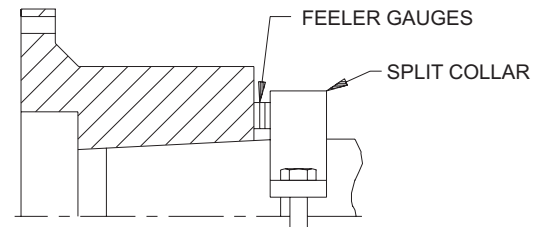
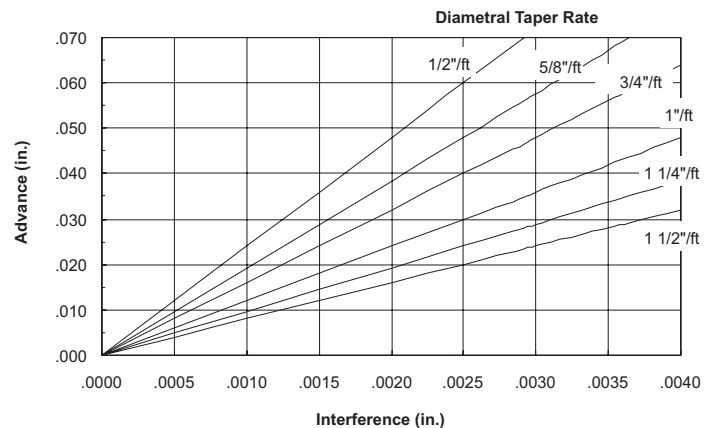

Figure 2. Using Split Collar to Set Advance
Figure 3. Hub Advance vs. Interference Chart
- 2.5 Taper Bores Only: A recommended method to measure the hub advance is to install a split collar on the shaft, away from the hub by the amount of the specified advance. Use feeler gauges for accurate spacing. See Figure 2. The amount of hub draw is dependent upon the desired interference and taper angle as specified by the machine manufacturer or as given on the coupling drawing. See Figure 3.